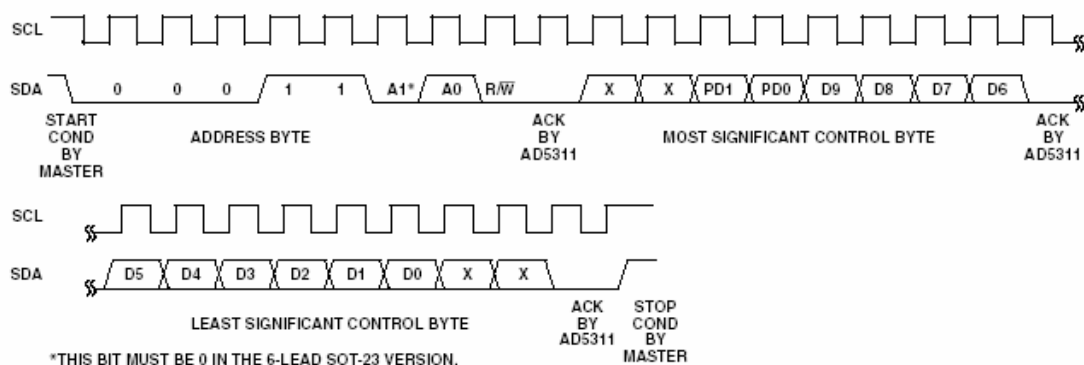

Figure LMP5-3 Write sequence initiated by the bus master (MC9S12DP256B/C)
This byte is sent to the bus to prepare DAC1 for the reception of two 8-bit data values. This 16-bit data word comprises of a 2-bit power mode selector (PD0, PD1), a 10-bit data value (D0 – D11) and 4 unused bits (X). Figure LMP5-3 illustrates the entire bit sequence of a write request. Notice that the level of the data line (SDA) has to be kept stable during the high phase of the clock signal (SCL)